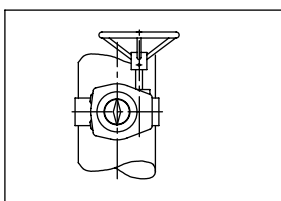

FIG.1: HANDWHEEL IN LINE WITH PIPELINE
- Handwheel in line with pipeline (figure 1)